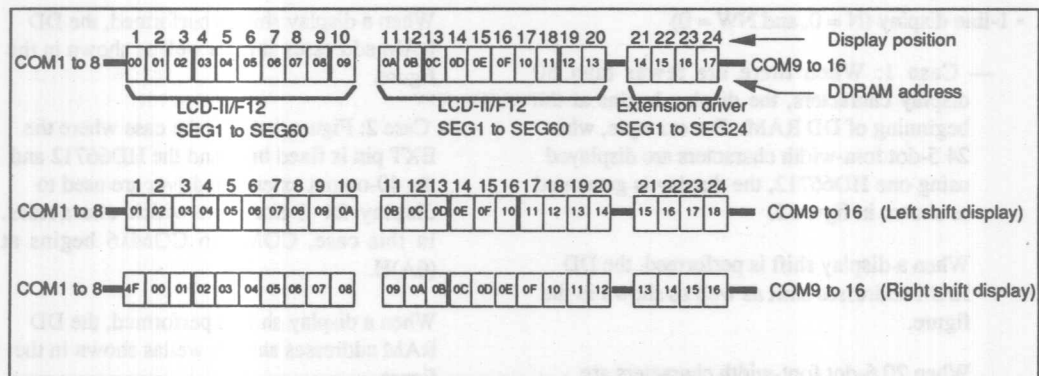

Figure 4 1-line by 24-Character Display (6-dot font width)
- Case 2: Figure 4 shows the case where the EXT pin is fixed high and the HD66712 and the 40-output extension driver are used to display 24 6-dot font-width characters. In this case, COM9 to COM16 begins at (0A)H.